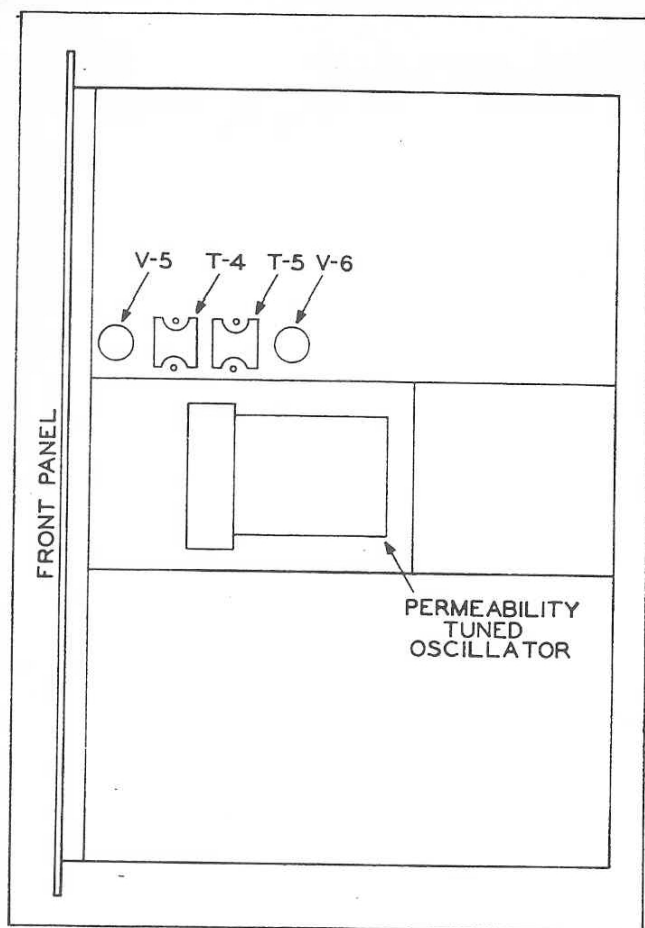

Figure 1. Locations of T-4 and T-5 in the 75A-2 Receiver (Bottom View)
- 3. Refer to figure 1 to locate i. f. transformers T-4 and T-5.